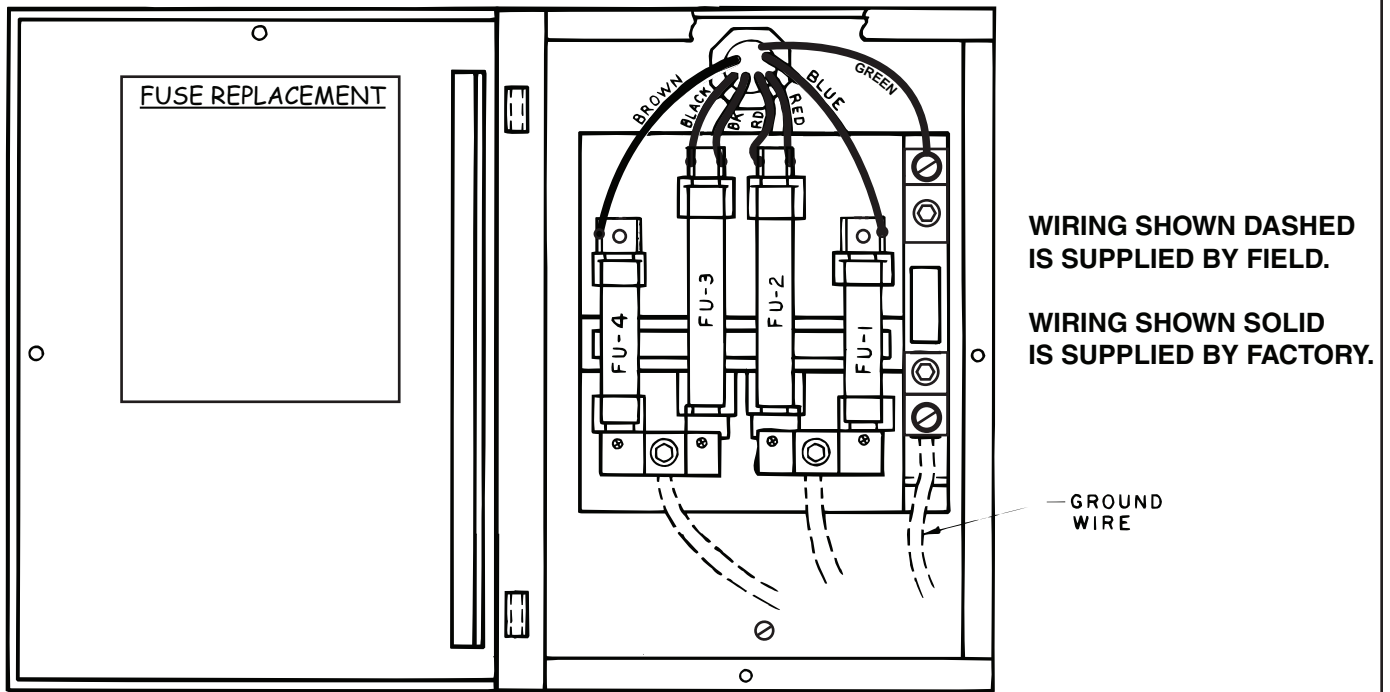

Figure 4. Dual Element Heater Fuse Box BAYHTRC117B
9. Route the heater's high voltage leads and ground wire through the chase nipple in the back of the fuse box. See Figure 4.
10. Connect the heater's high voltage leads to the fuse block and ground wire to ground lug as shown in Figure 4 and also shown on the heater's wiring diagram located on the back of the control box cover.
12. Connect the field high voltage leads to the fuse block and the ground wire to the ground lug as shown on the heater wiring diagram. See figure 4.
14. Replace the heater control box cover with the two (2) screws removed in step 1.